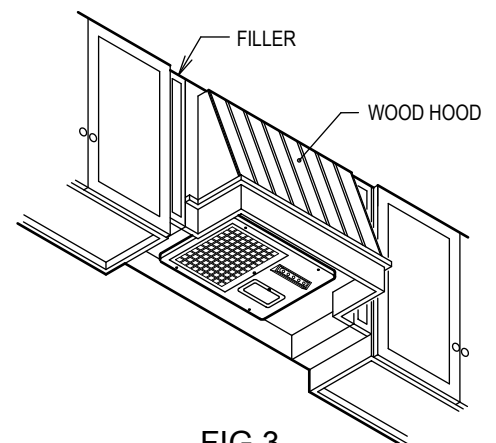

FIG 3
3. Drill top and bottom holes through the front frames of the adjoining wall cabinets. Drive #6x2-1/2" screws through holes into wood hood fastening it into place. Drive #8x3/8" screws through front of metal liner into back of wood hood front to attach liner securely. Installation should now appear as in Fig.3.